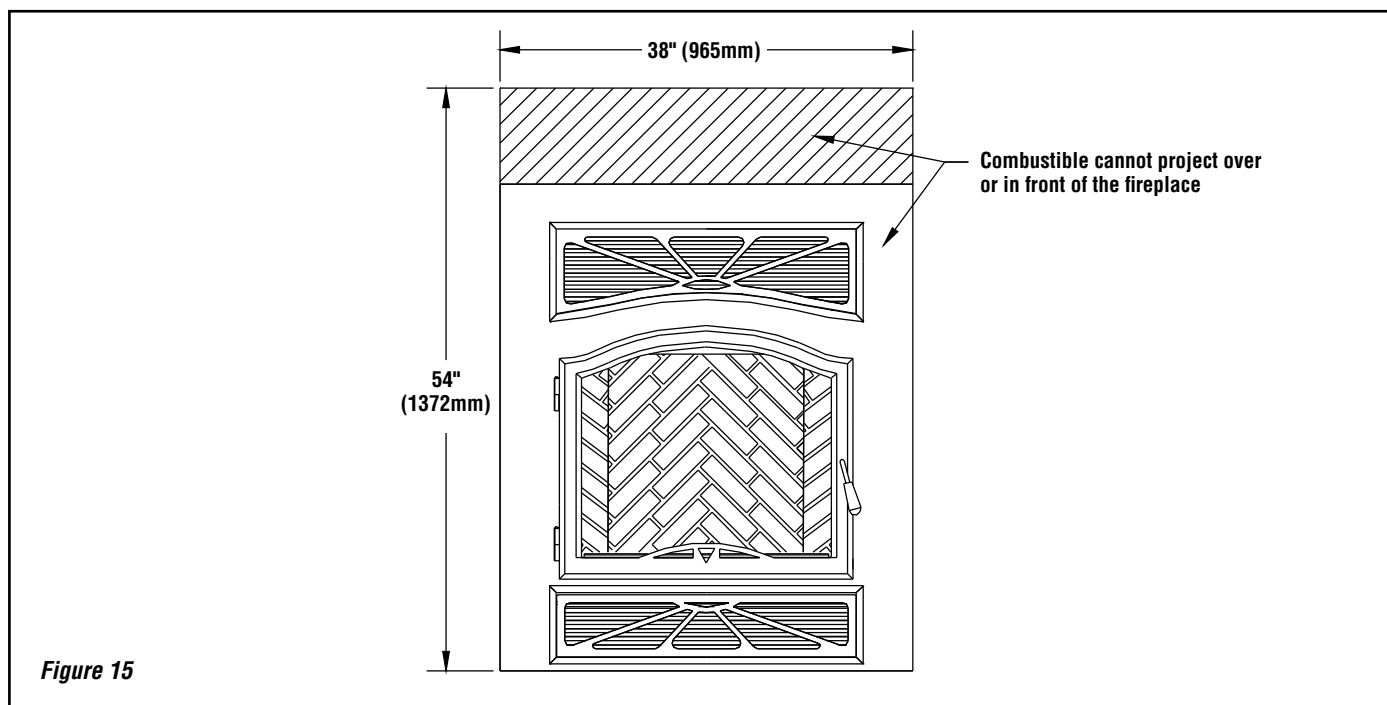

Figure 15
2. Decorative frame made of combustible material cannot project in front of and on the fireplace steel front, in the space delimited by the width of the unit (38") and a height of 54" from the base of the appliance (see **Figure 15**).